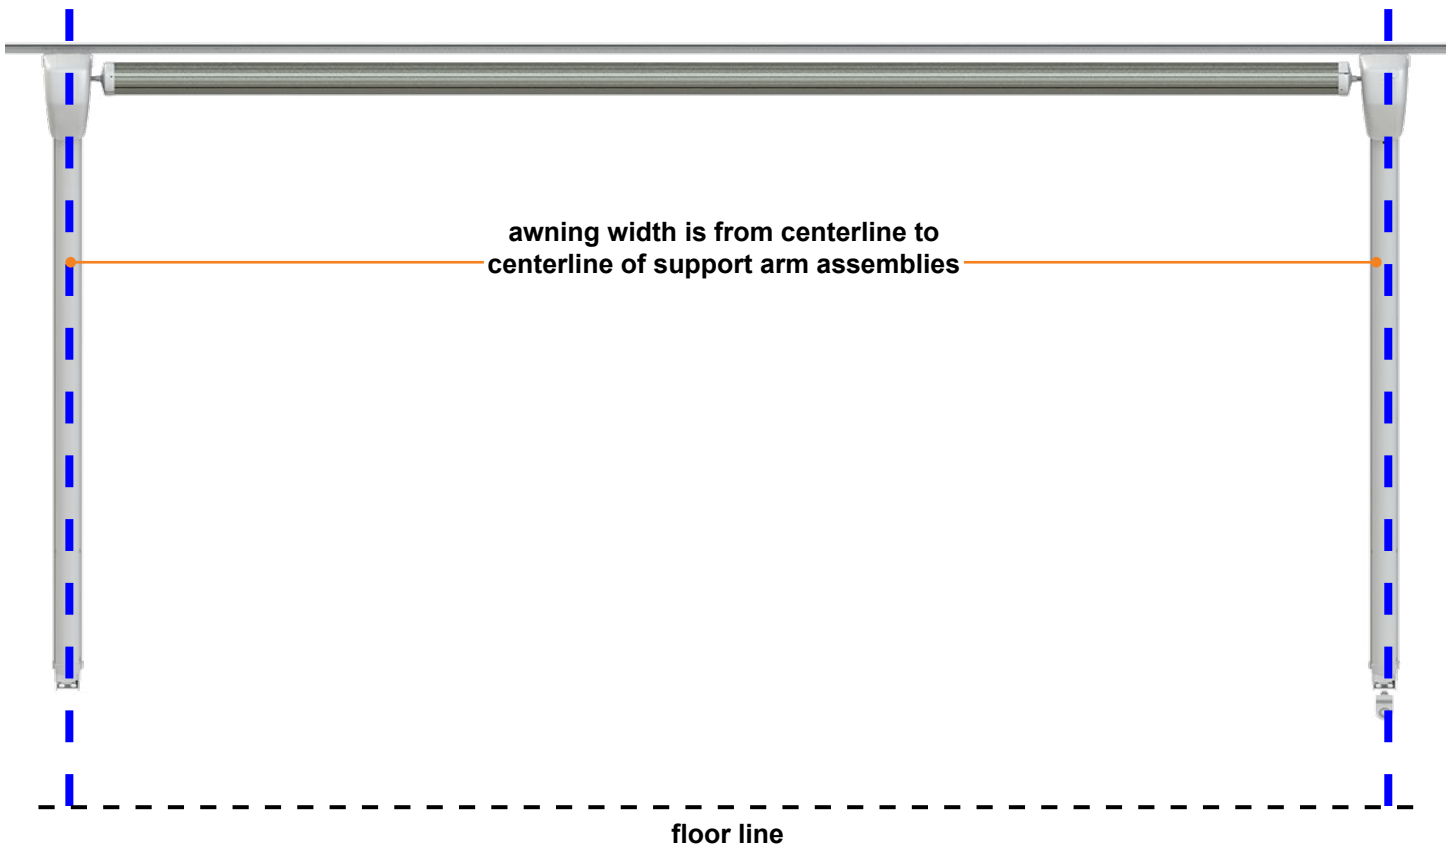

Fig.2
2. Using a non-permanent method of marking, mark a perpendicular line from the awning rail down to the floor line. This is the centerline of the support arm assembly (Fig.2).